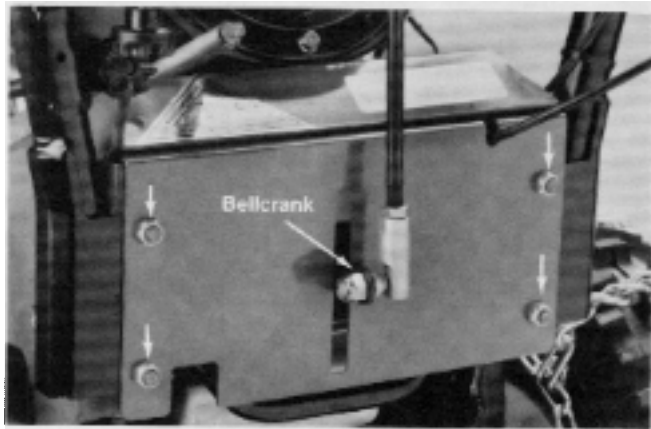

Figure 111
9. Remove the four nylon locknuts securing the rear cover plate to the lower handles. See Figure 111.
NOTE: The coverplate goes on top of the lower handle brackets! See Figure 111 above.